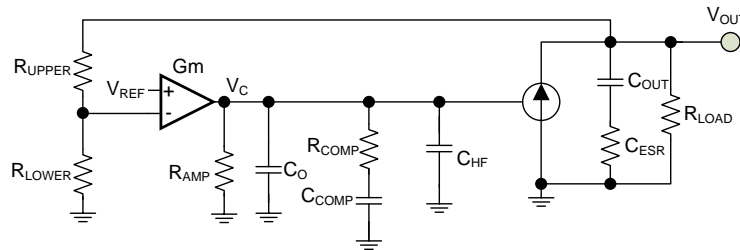

Figure 35. Transconductance Amplifier
A type II compensator using an transconductance error amplifier (EA), G_m , is shown in Figure 35. The dominant pole of the EA open-loop gain is set by the EA output resistance, R_{AMP} , and effective bandwidth-limiting capacitance, C_O , as follows: